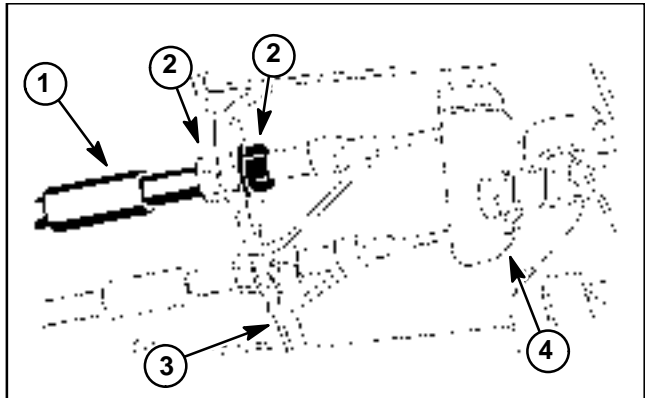
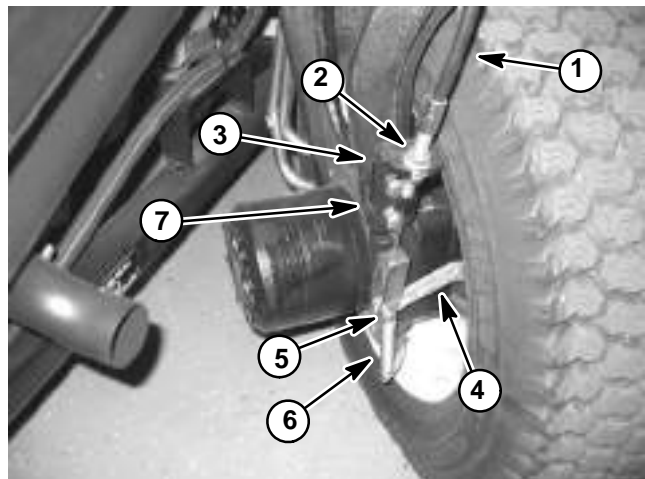

Figure 3
Figure 4
NOTE: Adjustments to brake cables can be performed at two (2) places on the machine: under the footrest platform near the brake pedal assembly (Fig. 3) and also at the rear wheel (Fig. 4). Final brake cable adjustment is easiest to complete at rear wheel end of cable.
3. After initial cable adjustment, sit in operator seat and apply full foot pressure to brake pedal and release pedal. Repeat this brake application five (5) to seven (7) times.